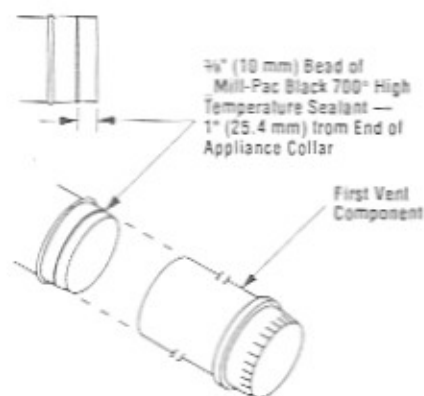

Figure 15
**WARNING: A 3/8" (10 MM) BEAD OF MILL-PAC BLACK (700°) HIGH TEMPERATURE SEALANT MUST BE APPLIED TO THE INNER APPLIANCE COLLAR BEFORE THE FIRST VENT COMPONENT IS ATTACHED (FIGURE 15) AND TO ALL SUBSEQUENT INNER VENT CONNECTIONS. FAILURE TO SEAL ALL OF THE INNER JOINTS WITH THE HIGH TEMPERATURE SEALANT MAY CAUSE THE APPLIANCE TO OPERATE IMPROPERLY.**